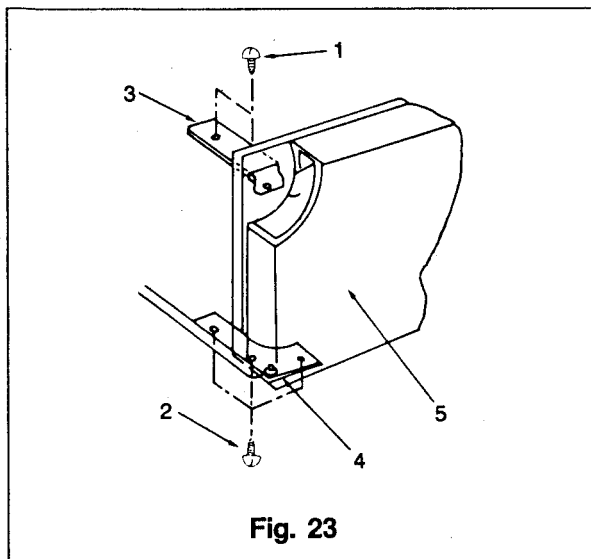

Fig. 23
8. Door Assembly Removal (Refer to Fig. 23)